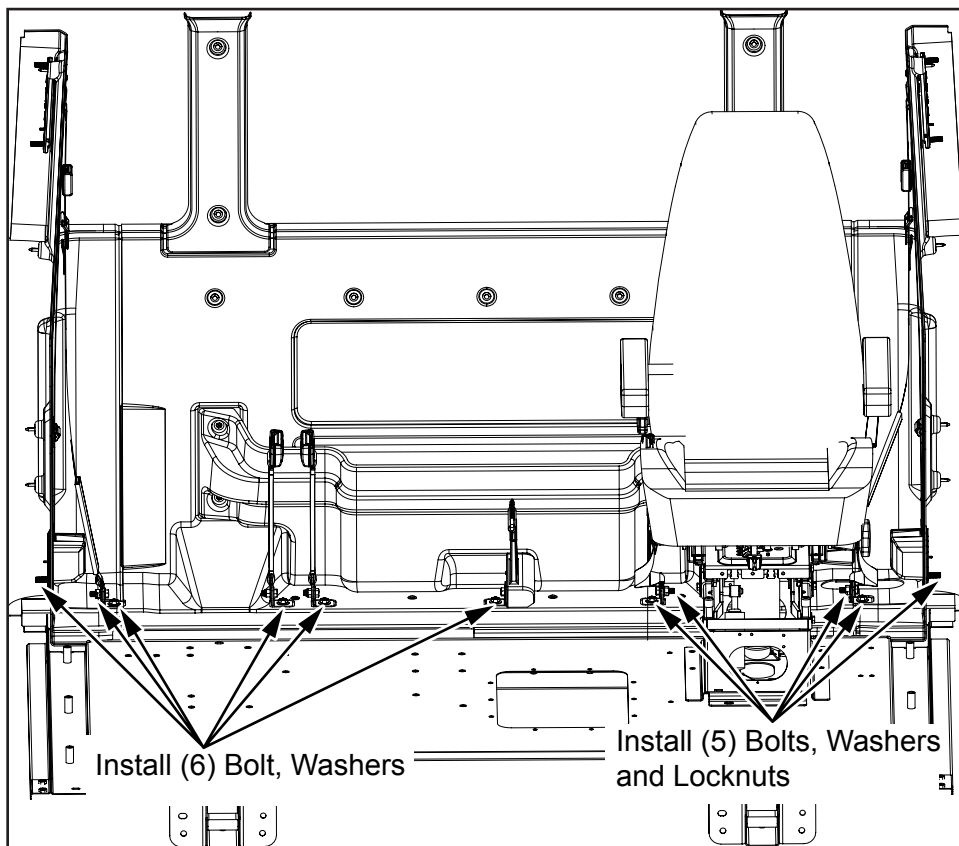

Figure 18
19. Install (6) bolts (A5221026-001) with washers (A5221030-001) and tighten to 41 Lbs-Ft of torque. Install (5) bolts (A5221026-001) with washers (A5221030-001) and locknuts (A5221027-001) and tighten to 41 Lbs-Ft of torque (see Figure 18).